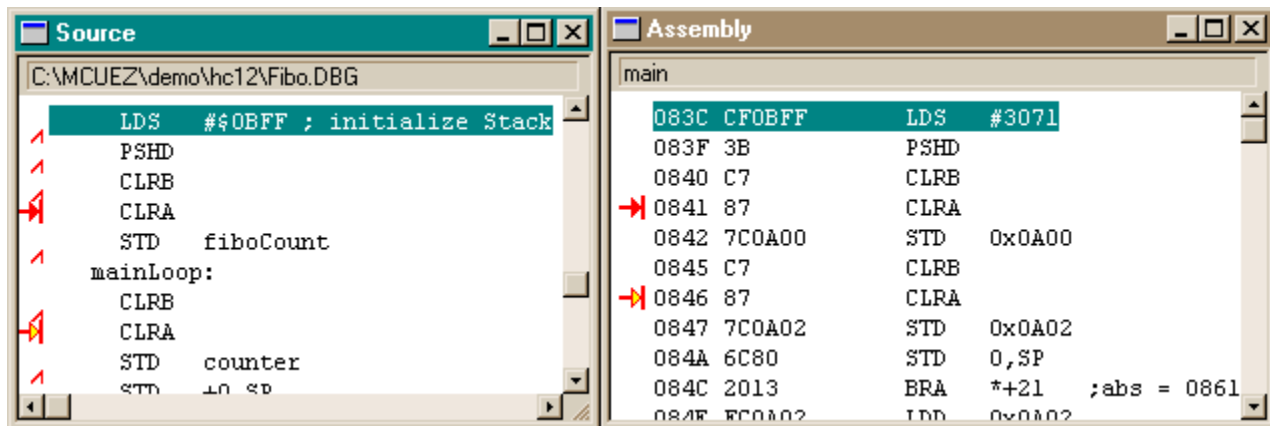

Figure 4-3. Identifying Breakpoint Positions
2. Check **Marks** from the pop-up menu. All statements where a breakpoint can be set are identified by a special mark: . See Figure 4-3.